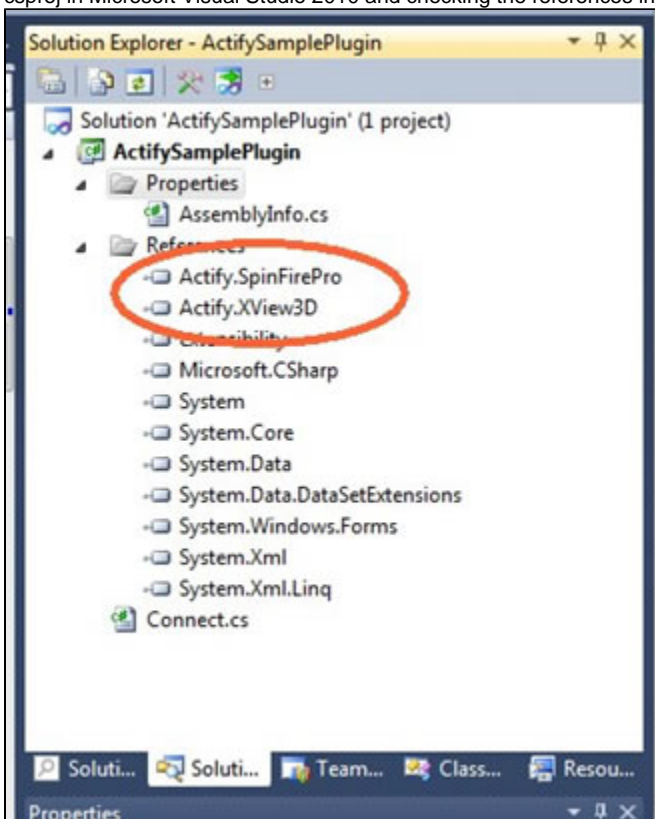

Figure 1 - Solution Explorer
3. <OPTIONAL> You can double check that your plug-in project has been modified correctly to use Spinfire 10 interop DLLs by opening the csproj in Microsoft Visual Studio 2010 and checking the references in Solution Explorer. See **figure 1** for an example screenshot.